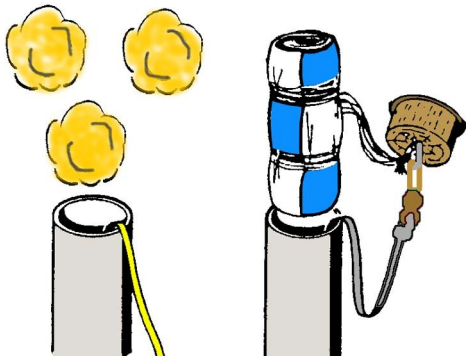

Figure 12
- **Step 65** As shown in Fig. 12 above, push at least 3" of flame-resistant recovery wadding, either crumpled sheets or loose cellulose fill, into the body tube and down to the motor using a 3/4" dowel. Do not pack this material tightly! The wadding must be blown out of the model to recover successfully. You are only trying to create a gas seal and a particulate block to protect the parachute with this material. Next, push the shock chord and the Kevlar thread down on top of the wadding. Insert the rolled or folded parachute on top of the shock chord, making sure the parachute is at least 2"